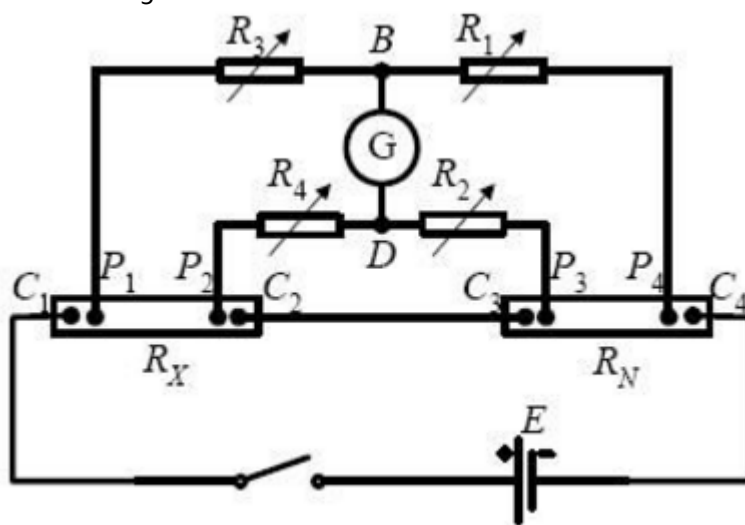

Fig.3: Schematic diagram of Kelvin Double Bridge
**Solution of Kelvin Double Bridge:** Kelvin is the deformation of Wheatstone Bridge, which can give quite high accuracy when measuring small resistance. The structure is shown in Figure 3, where  $R_1$ ,  $R_2$ ,  $R_3$ , and  $R_4$  are all adjustable resistors,  $R_X$  is the measured low resistor, and  $R_N$  is the low value standard resistor. Compared with Wheatstone Single Bridge, Kelvin Bridge has made two important improvements: